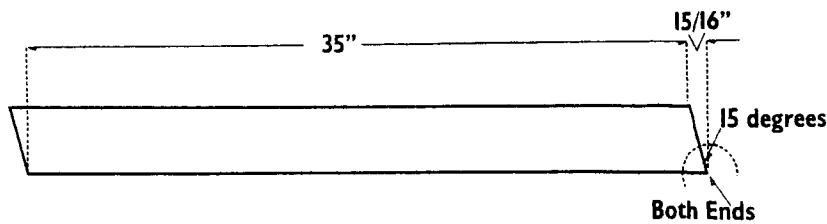

Fig. 4
(2) 1/4" x 1-1/2" Lag Screws & Washers
- Cut the 2x4 Seat Back Supports as shown in Figure 4